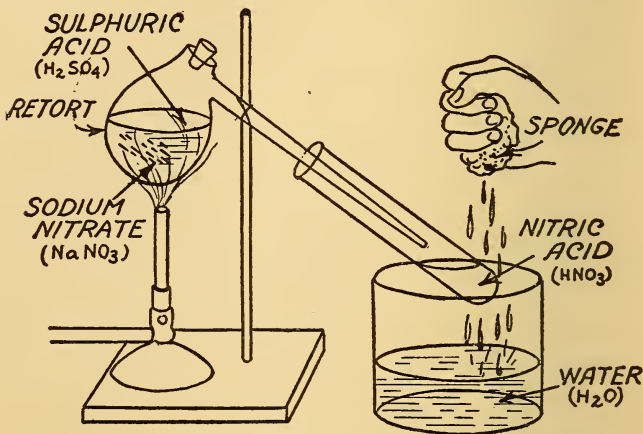

FIG. 30. APPARATUS FOR MAKING NITRIC ACID (HNO_3)
How to Make Nitric Acid.—*The Apparatus.*—To make *nitric acid* (HNO_3) get (1) a 2-ounce glass retort with a stopper in it, (2) a test tube and fix the retort to it, and (3) a stand, as shown in Fig. 30.